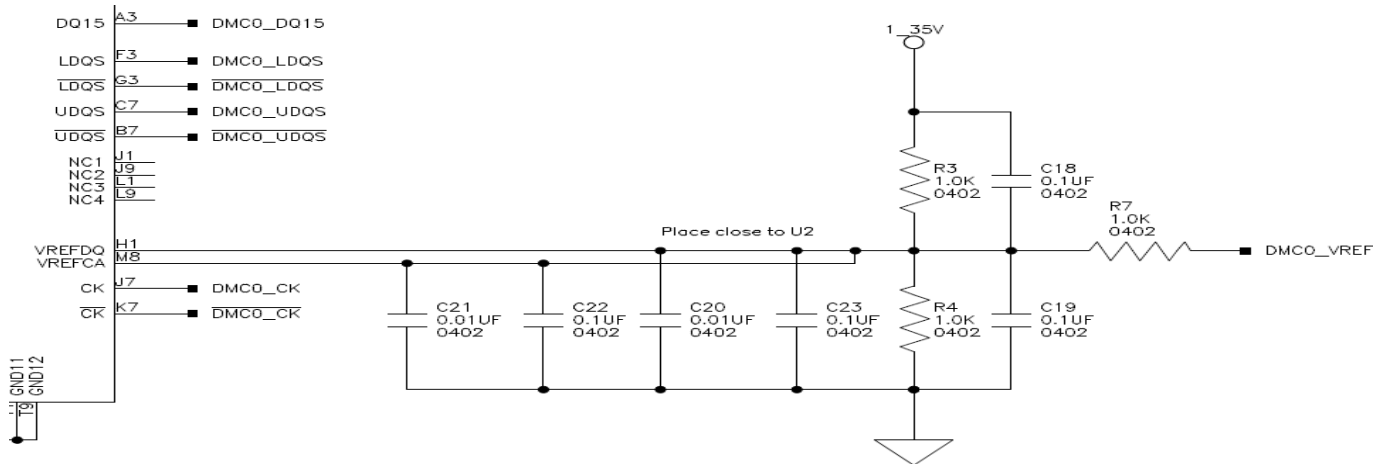

Figure 5. Recommended VREF Supply Circuit
- Keep the length from the decoupling capacitor to the DRAM supply pin as short as possible. Maintain the trace width based on the peak current requirement of the DDR. Figure 5. Recommended VREF Supply Circuit, shows the recommended VREF supply circuit for a DDR3 memory.